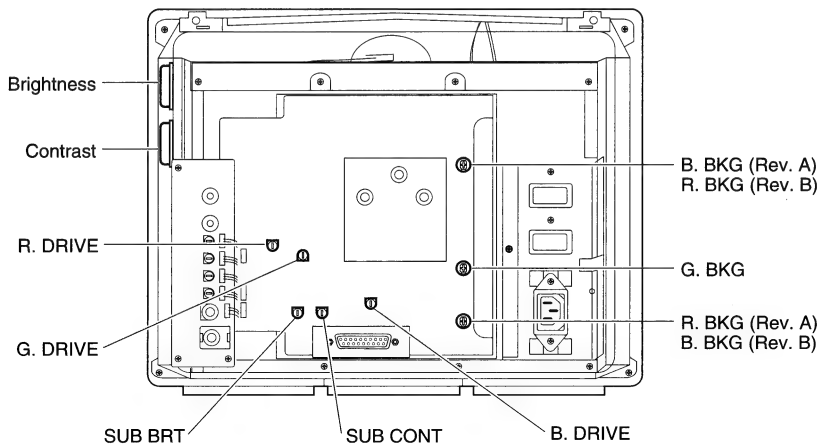

Figure 5 Brightness, Contrast, and "B" Board Controls
2. FIGURE 5. Turn the brightness control to detent (midrange) and turn the contrast control to maximum (turn clockwise).
3. FIGURE 5. Set the eight controls on the video color ("B") board to midrange.